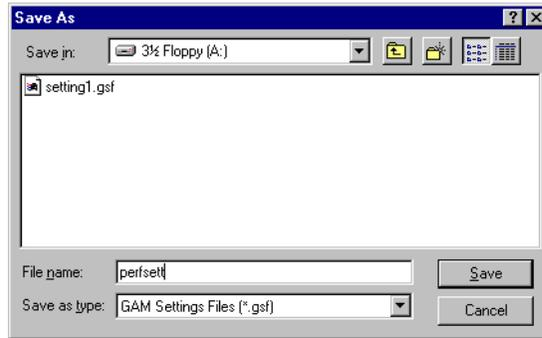

Figure 5-33. Save Settings to a File
1. Click Save Settings. A Save As dialog box is displayed (Figure 5-33).